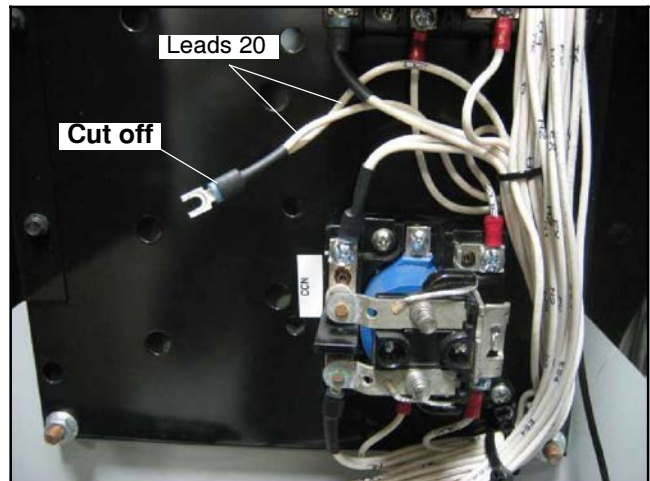

Figure 42 Cut Off Terminal
36. Find the longer lead 20 that routes through the harness from connector P1. Cut the forked terminal from the end of the lead near the relay. See Figure 42.